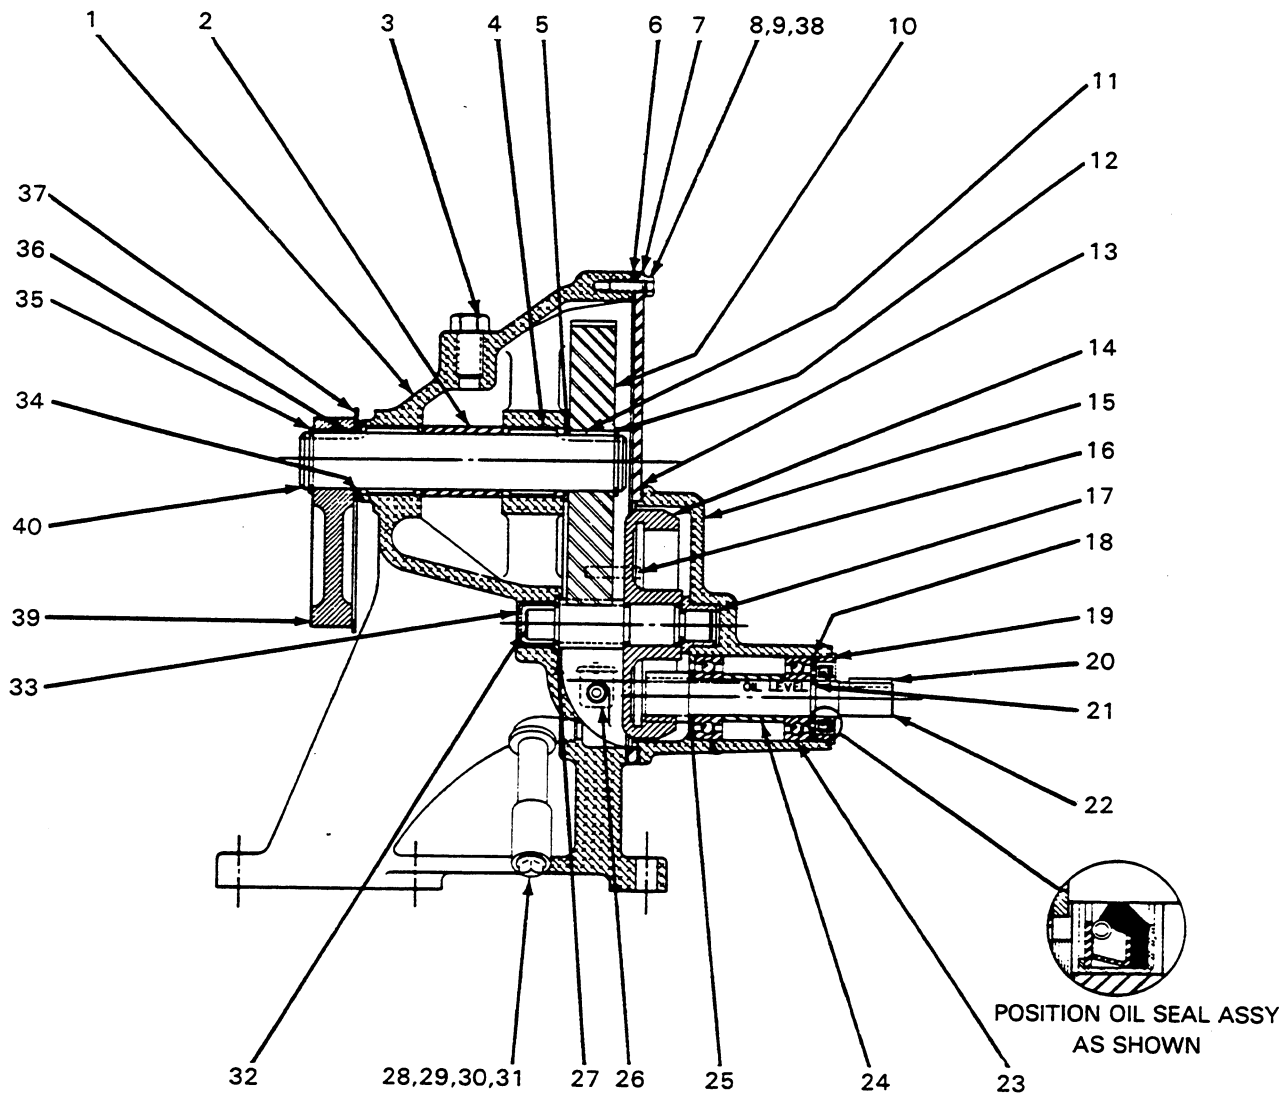

Figure 4. 44161-008 Gear Box Assembly
**Gear Box Disassembly (See figure 4)**
**Gear Box Reassembly (See figure 4)**